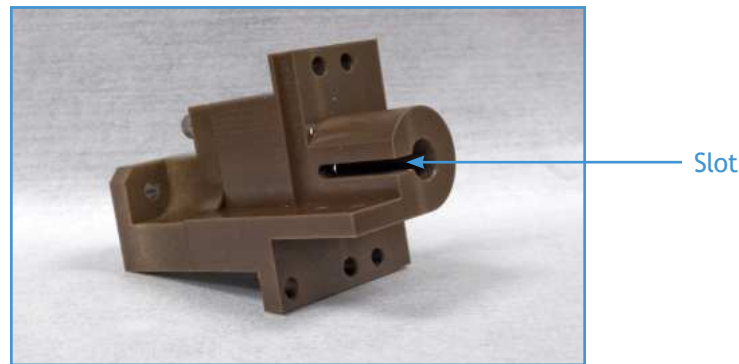

Figure 1-10: Slot in garage body
1. Place the lubricated ball into the slot of the garage body. See 1-Figure 1-10.